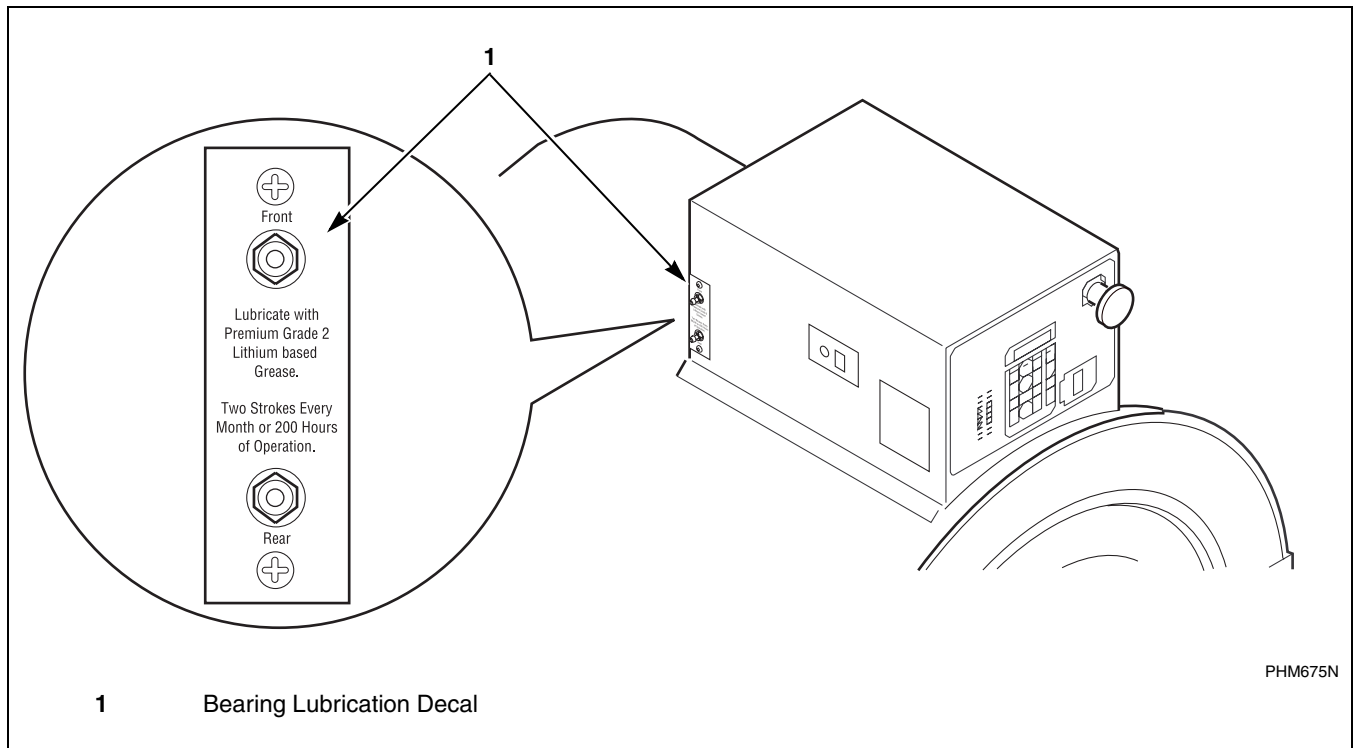

Figure 19
1. Each month OR after every 200 hours of operation, lubricate bearings of the UW60. (Locate the bearing lubrication decal. See *Figure 19*.)
- **Deflection.** See Figure 19. Increase spring tension to change belt span length. Belt tension measurements should be taken as close to the center of the belt span as possible. For every inch of span length, the belt should deflect 1/64 inch (0.40 mm). Thus, a belt with span length of 50 inches should deflect 50/64 inch (19.84 mm). An initial (run-in) force should be used to set the belt tension. An operating (normal) force should be used after the washer-extractor has been operated for a few hours. See the table below.